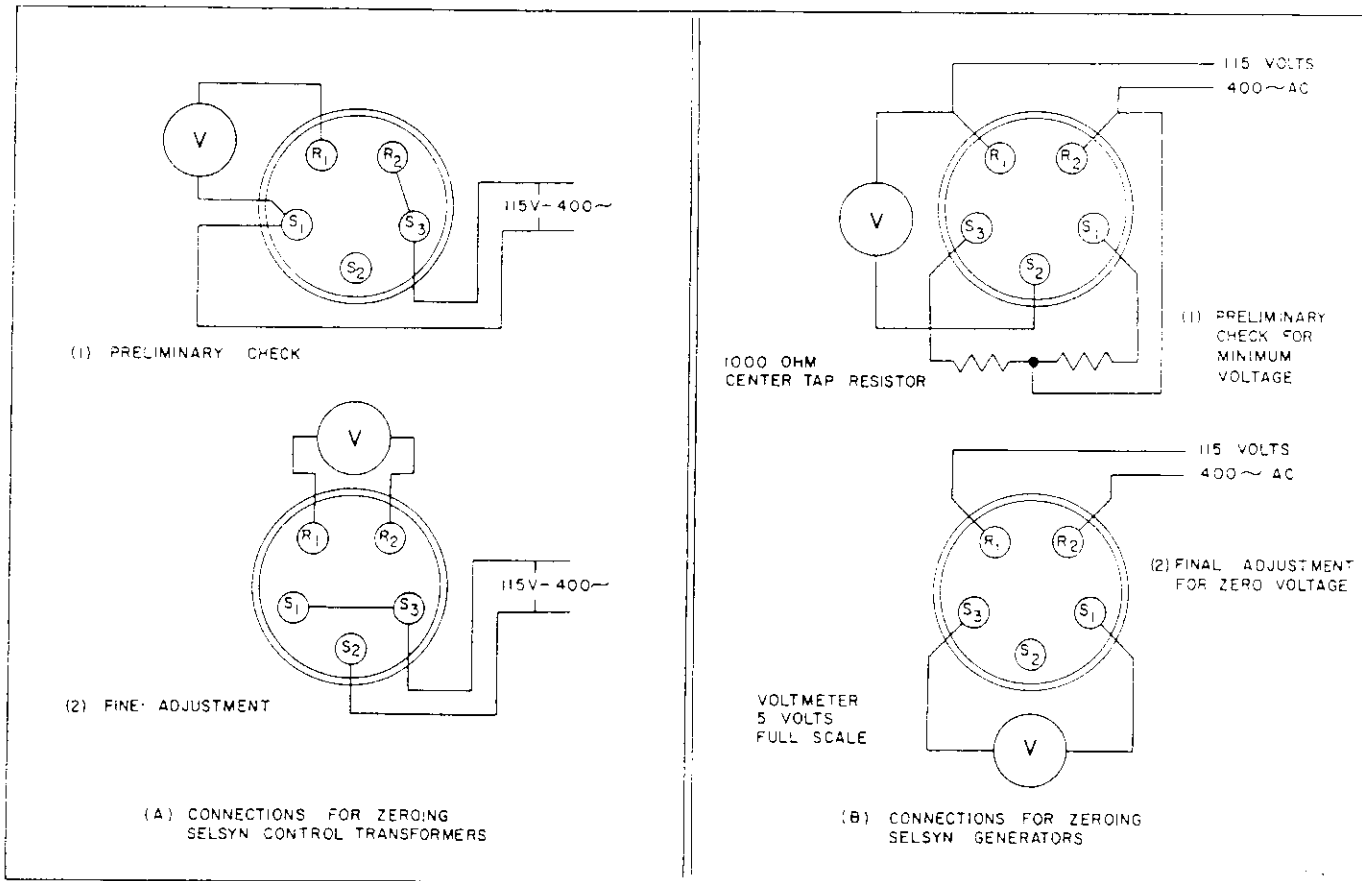

Figure 2-5. Zeroing Selsyn
2-9. ADJUSTING SELSYN CONTROL TRANSFORMERS (ZEROING SELSYNS). (See figure 2-5.)
- b. Remove selsyn cap and make connections as shown in detail A-1, figure 2-5, to apply 115-volt, 400-cycle power.
- d. Remove connections and connect as shown in detail A-2, figure 2-5. Use a voltmeter capable of indicating 0.1 volt.
2-10. ADJUSTING SELSYN GENERATORS (ZEROING SELSYNS). (See figure 2-5.)
- b. Remove selsyn caps and make connections as shown in detail B-1, figure 2-5, applying 115-volt, 400 cycle power.
d. Remove connections and connect as shown in detail B-2, figure 2-5, using a voltmeter capable of indicating 0.1 volt.